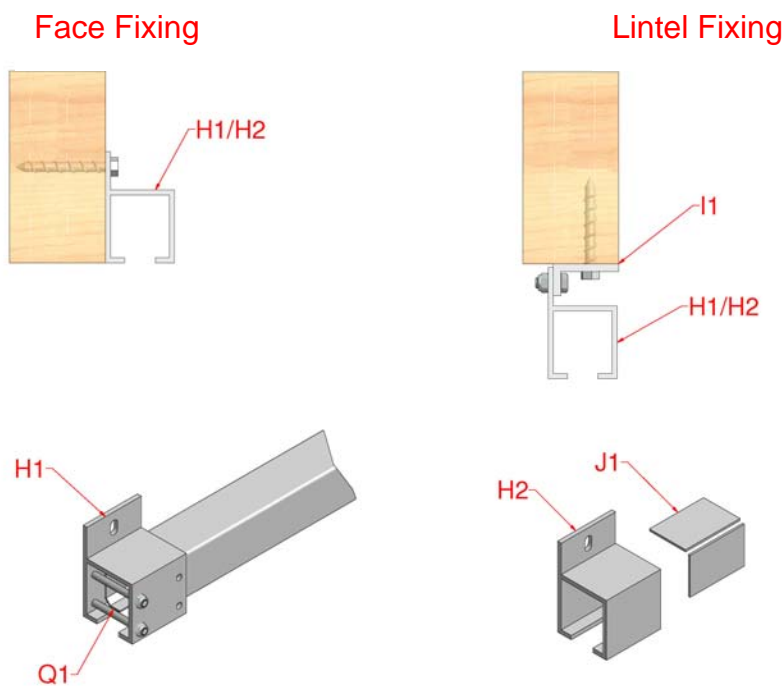

Figure 4, Track Fixing
- Fasten the tracking onto the building with the M8x40mm bolts supplied (N1) or alternative. The orientation of the track support brackets (H1, H2 and I1) for face or lintel fixing to be the same as that decided when the order was placed, Figure 4. Support brackets to be positioned at 100cm centres. Insert the tracking with the track shims (J1) on the joints. To help in the smooth running of the trolleys file the ends of the tracking. Insert all the two wheeled trolleys (K1) into the track. Seal off the ends of the track by fixing the five hole track support brackets (H1) with the M6x60mm screws and nuts (L1).